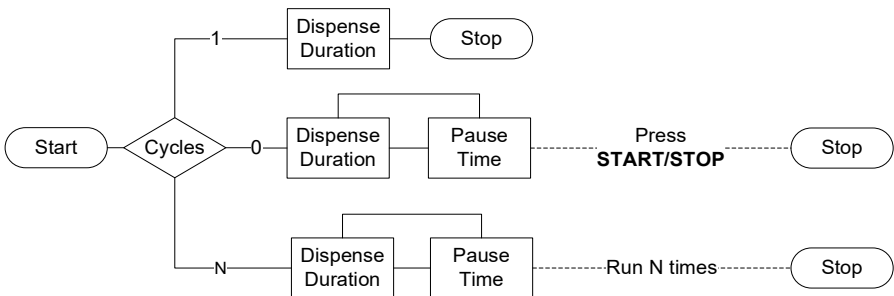

Figure 17. Dispense Cycle Setting
5. Cycle: Number of cycles for dispense mode. The range is 0-999 cycles. When it is set to 0, the dispensing process will keep running until **START/STOP** is pressed. When it is set to the other value, the pump will stop when the set number of dispensing cycles is completed (*Figure 17*).